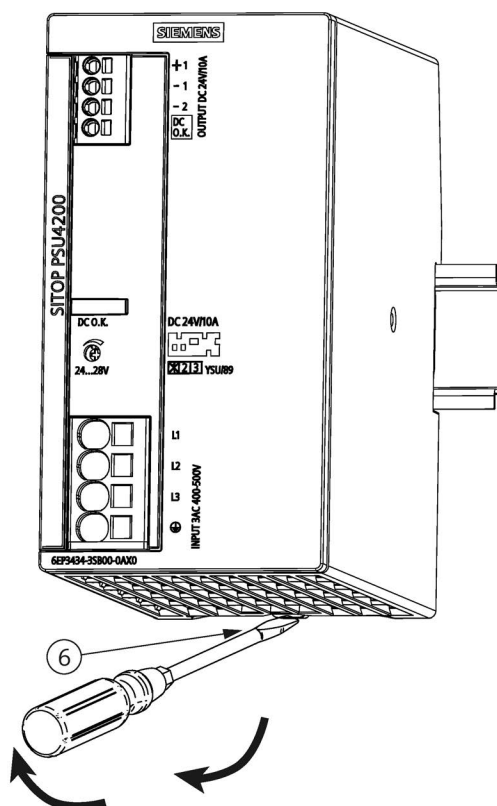

Figure 3-1 Mounting/removal (example 6EP3434-3SB00-0AX0)
To remove, pull up the slider ⑥ using a screwdriver (see Figure 3-1 Mounting/removal (example 6EP3434-3SB00-0AX0) (Page 16)) and disengage the device at the bottom edge of the standard mounting rail. Then you can remove the device from the upper edge of the standard mounting rail.